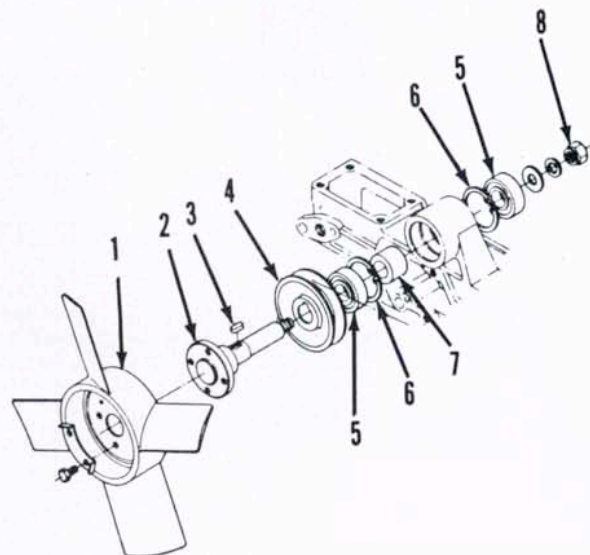

Fig. 67—Exploded view of cooling fan and shaft assembly used on Model L185.
59. To remove cooling fan and shaft assembly, drain cooling system and remove radiator. Remove fan belt and fan. Remove retaining nut (8—Fig. 67) and withdraw fan shaft (2), pulley (4) and bearings (5).